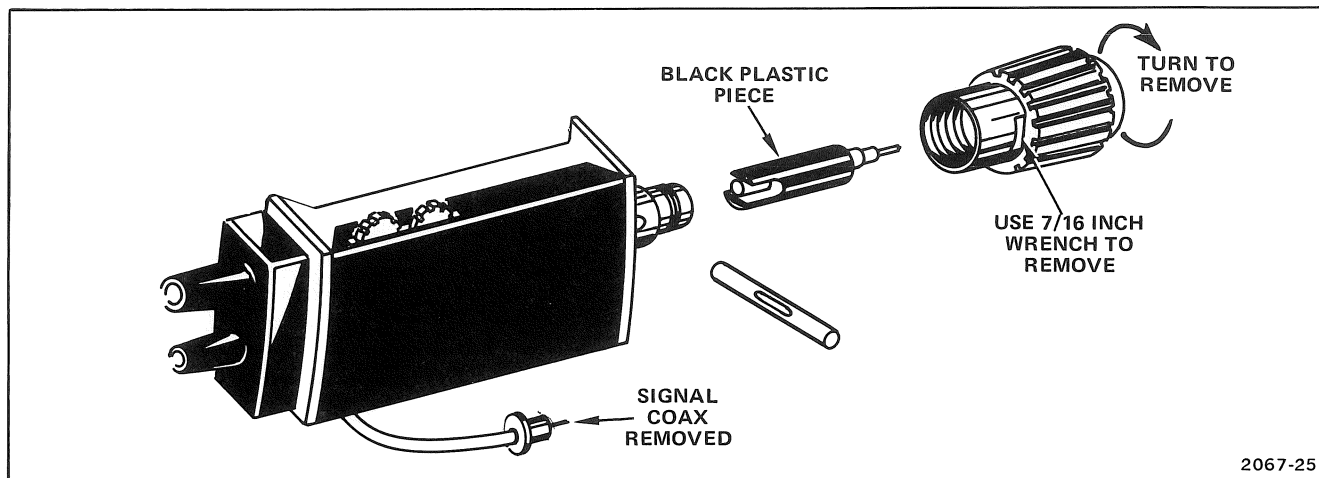

Figure 5-5. 50 Ω switch removal.
3. Using a 7/16 inch open end wrench, loosen the BNC shell and carefully remove (see Fig. 5-5).
4. Grasp the black plastic piece just exposed and pull to remove (see Fig. 5-5).
5. Grasp the 50 Ω switch and pull to remove (see Fig. 5-5).
When reinstalling the switch, be sure the clip side is correctly oriented (see Fig. 5-5).